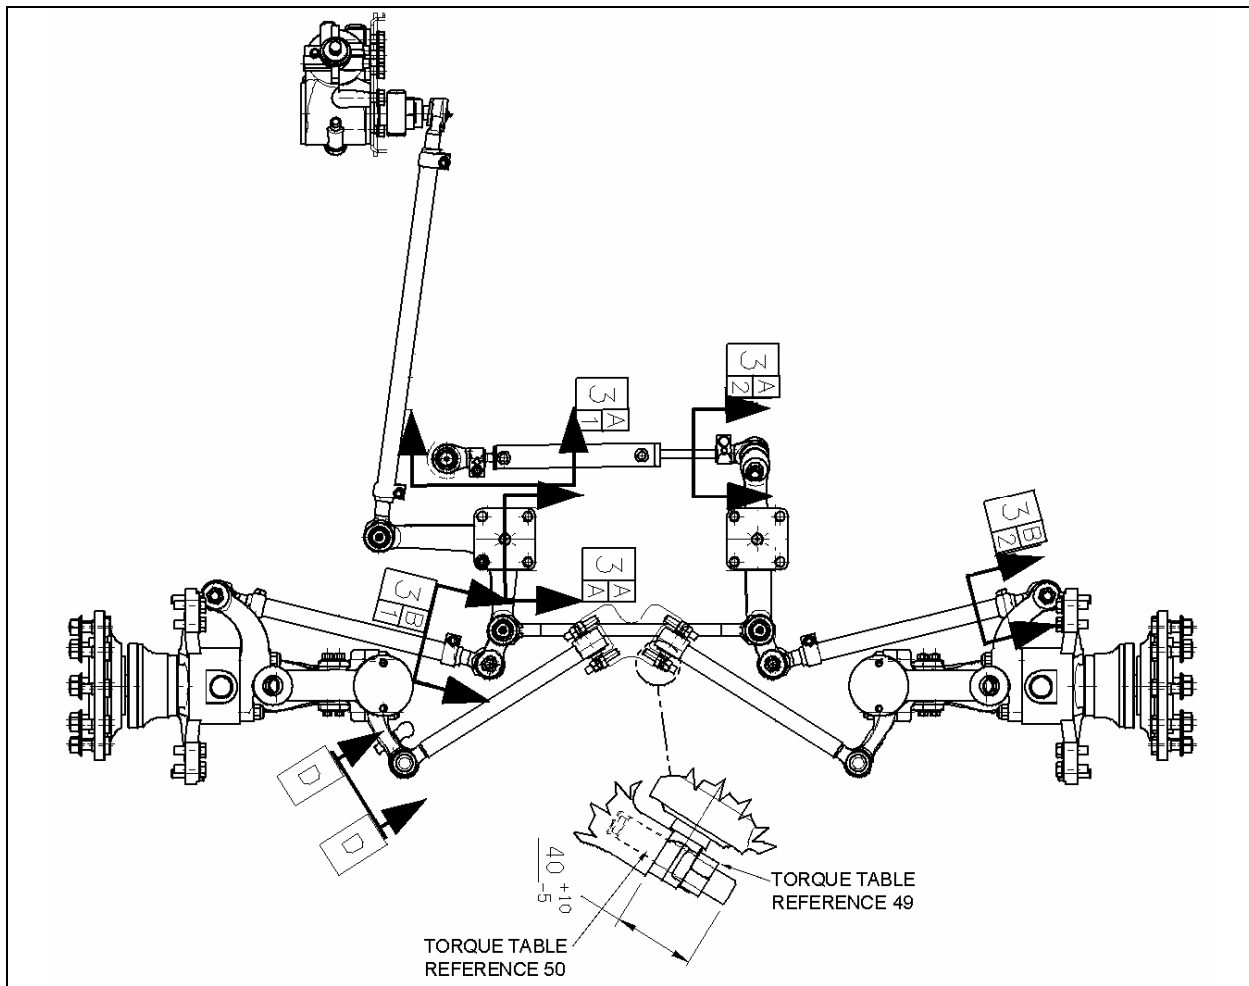

FIGURE 13: LOCATION OF CLAMPS
2. For a full left and right turn, check clamps' position and for interfering parts. Refer to figures 13 to 19 for location and positioning of clamps. If readjustment is required, make the proper adjustment.
**Note:** Install grease retainer according to figure 13. Grease must be able to exit the bell crank or idler arm mechanism. For grease retainer installation use tool Prevost # 110683.